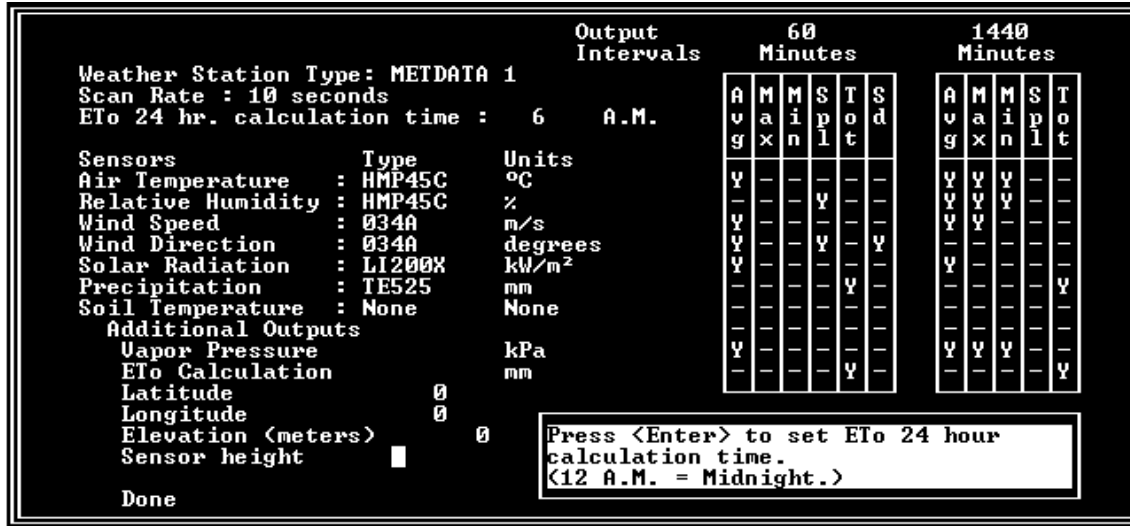

FIGURE 4. Sensor Units Selection
- Sensor units can be viewed or changed by selecting the "Sensor Units" entry. A window should appear similar to Figure 4.